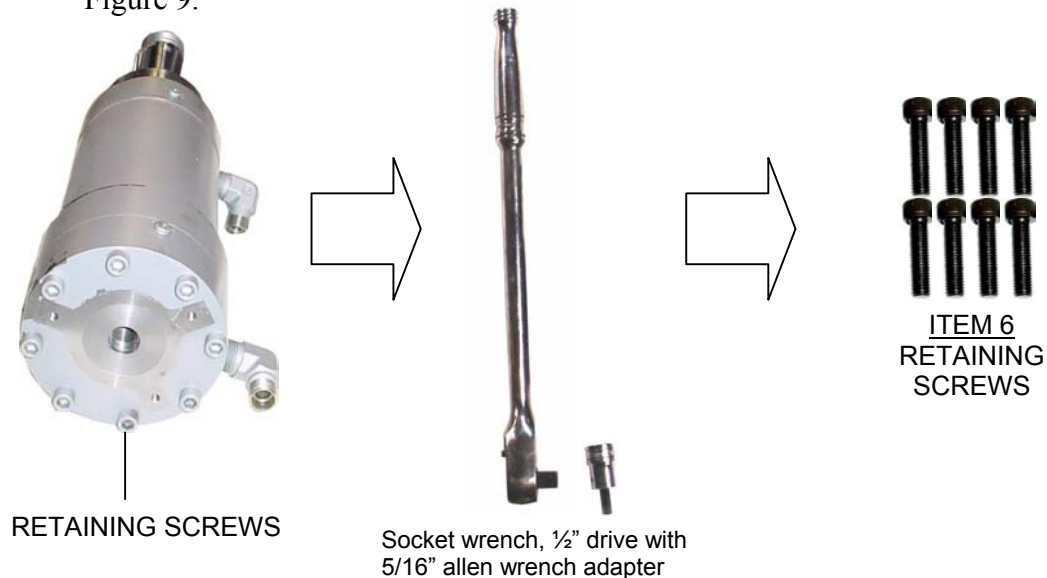

FIGURE 9
After the transducer cover is removed, use a socket wrench with a 1/2" drive and a 5/16" allen wrench adapter to remove the (8) cap retaining screws (Item 6). See Figure 9.